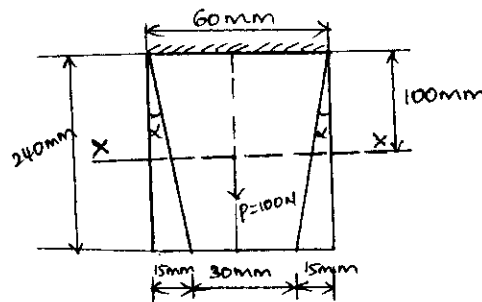

Fig.Q.8(a)
- 8 a. The Fig.Q.8(a) shows a thin plate of uniform thickness of 1mm, Young's modulus $E = 200\text{GPa}$, weight density of the plate $= 76.6 \times 10^{-6} \text{ N/mm}^3$. In addition to its weight it is subjected to a point load of 100N at its midpoint. Determine the following: (15 Marks)